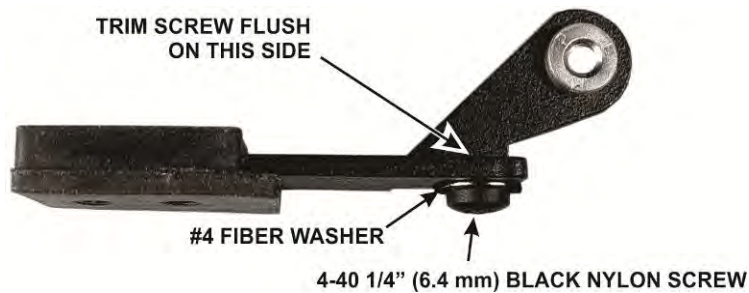

Figure 30. Placing Nylon Bumpers on the Tilt Legs.
- Install a flat fiber washer and black nylon screw on each tilt leg as shown in Figure 30. Note the orientation of the screw as well as the rubber foot that you installed earlier. They must be as shown for the foot to work properly.
- Verify that you trimmed the screws flush with the legs as shown in Figure 30. Set the legs aside. They will be installed later.